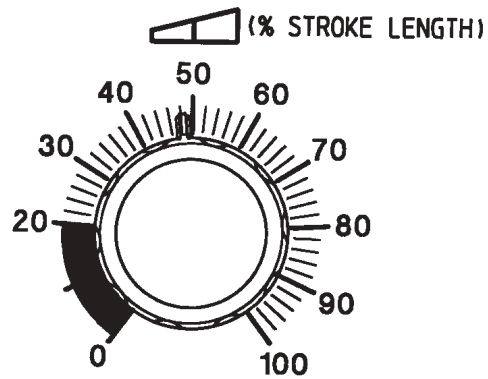

Figure 3.3
- a. While the pump is running, turn the bottom knob to the “D” position, also labeled “BLEED” (see Figure 3.3).